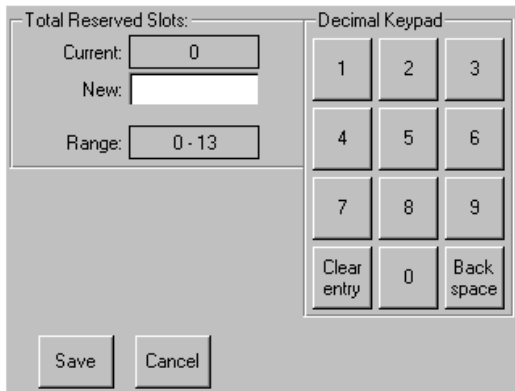

Figure 29 Reserved slots numeric keypad screen
3. Press the associated box next to the **Total Reserved Slots** option (see Figure 29).